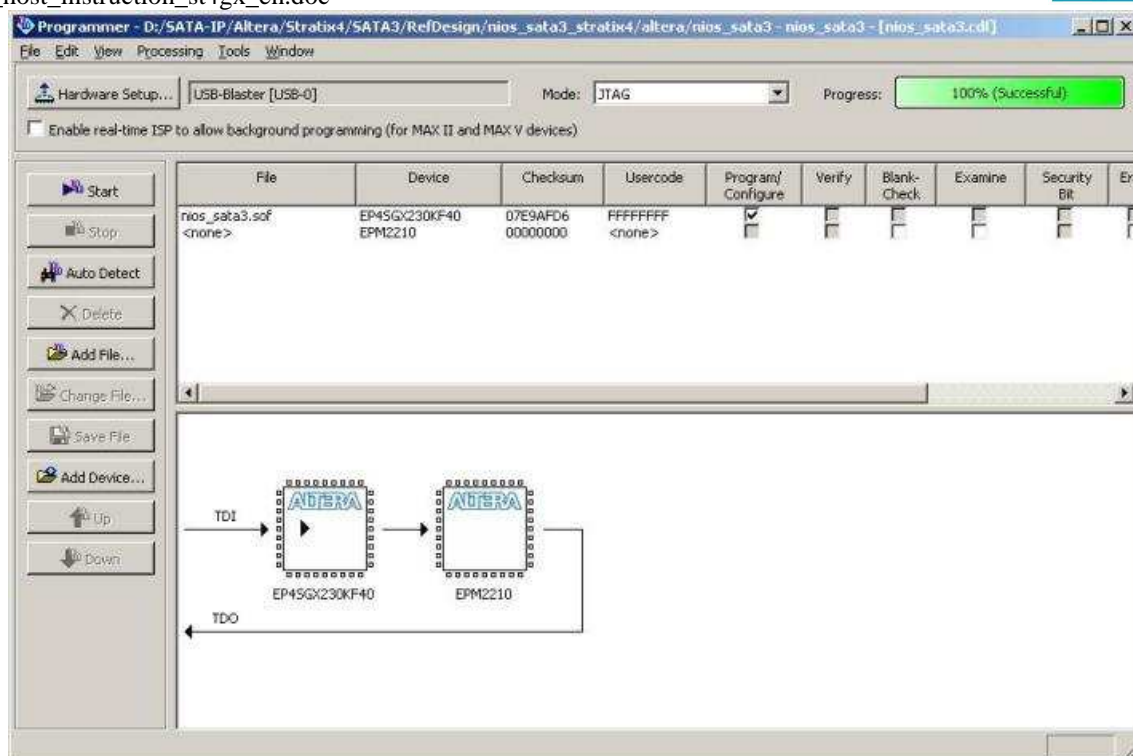

Figure 5 Programmer Environment
- Open Quartus Programmer and download “nios_sata3.sof” to Stratix IV GX board, as shown in Figure 5.